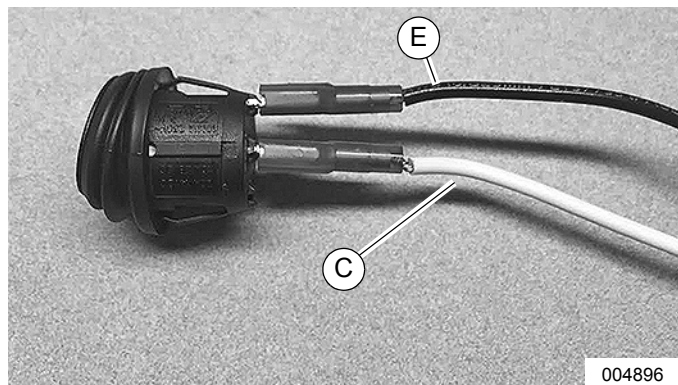

Figure 8 - Crimped Rocker Switch Wires
5. See **Figure 8**. Connect one crimped end of 24 in. (61 cm) wire (E) and 36 in. (91 cm) wire (C) to rocker switch terminals on outboard side of controller access cover. Verify there is enough insulation removed to properly connect and disconnect wires.